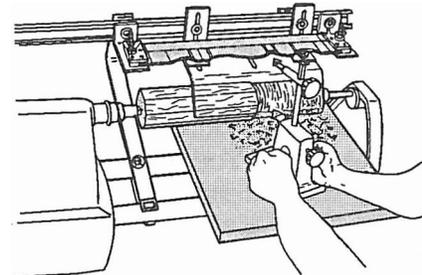

Fig. C-6
**6. Round off the workpiece.** Check that the proper speed has been set, then turn on the Mark V. Roughly round off the corners of the workpiece by cutting small areas at a time, as in Fig. C-6. Start at the right-hand end of the workpiece. When each small area becomes round, you will feel less vibration and hear a change in the noise level.